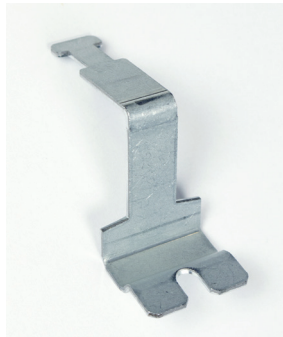

Fig. 3.4 Shield plate size C2 to C4
- Fasten the shield connection plate supplied (shield plate for size C2 to C4 see Fig. 3.4), to the top of the device. Ensure the plate contacts across a wide area with the heat sink of the Single-Axis Compact and with the backing plate. Use a toothed ring.